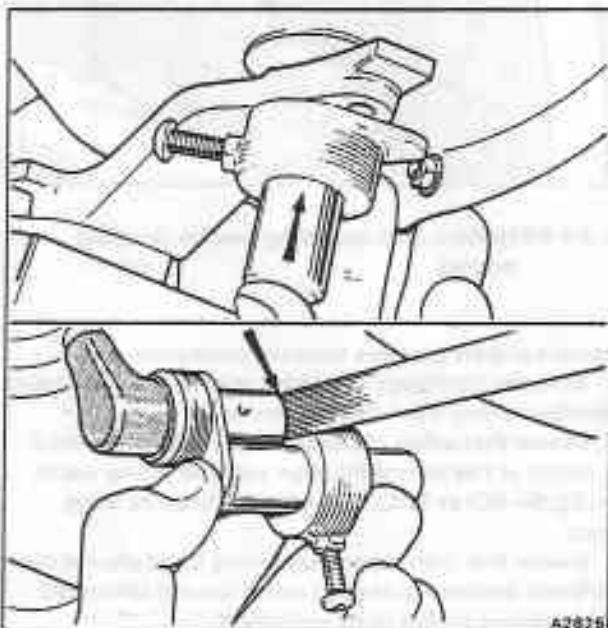

Fig. B4-62 Engine speed sensor air gap
Engine speed sensor - To remove and fit (see fig. B4-62)
8. Fit the setting tool RH 12207 through the hole. Ensure that the collar/plate assembly of the setting tool sits on the sensor mounting bracket and that the depth pillar is pushed firmly into contact with the segment (see fig. B4-62). Tighten the locking screw.
sensor (see fig. B4-62).